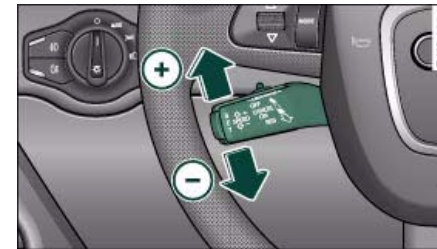

Fig. 140 Control lever for: Setting a new speed
- **Briefly** move the control lever up towards $\oplus$ $\Rightarrow$ fig. 140. The speed will be incremented by one graduation on the scale in the speedometer.